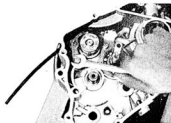

Fig. 4-13-5
- 1) Remove the mounting bolt, and remove the gear shift arm, together with the spring. (Fig. 4-13-5)